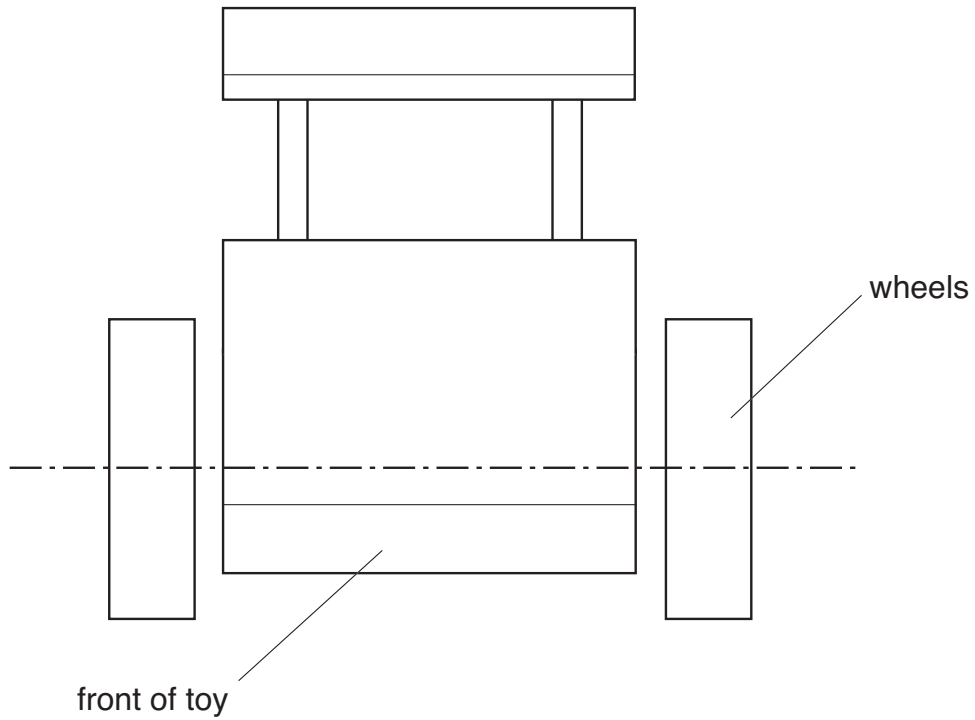

Fig. 2
- (d) Fig. 2 shows the front view of the toy.
Complete Fig. 2 to show how the wheels could be attached to the body of the toy.